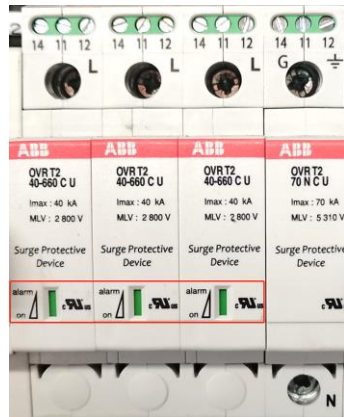

Fig. 6-1 Surge Protection Device
- During use, check the small firing pin or indicating window on the surge protection device (SPD) frequently as shown in Fig.6-1. If the firing pin protrudes or the window turns red, it means that the surge protection device has failed and should be replaced immediately.